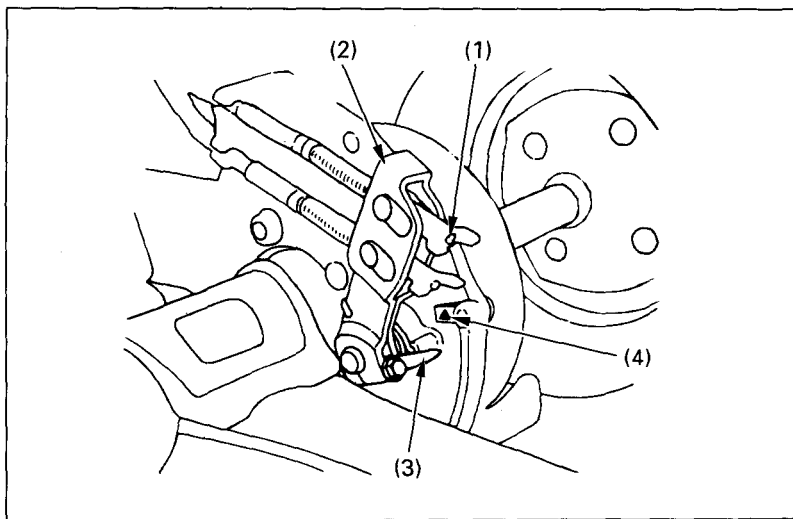

Fig. 4-29 (1) Brake lever adjusting nut (3) Arrow
When the brake is applied, an arrow (3) attached to the brake arm (2) moves toward a reference mark (4) on the brake panel (see Fig. 4-29).